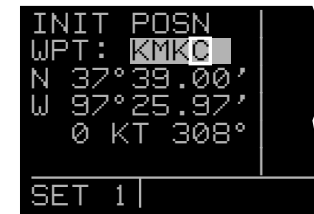

Figure 3-59
5. Complete entering the rest of the identifier using the left knobs in the same manner as in step 4 (figure 3-59).